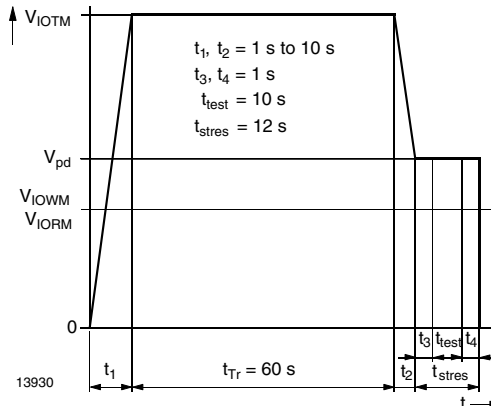

Fig. 2 - Test Pulse Diagram for Sample Test According to DIN EN 60747-5-5 / DIN EN 60747-; IEC 60747
- According to DIN EN 60747-5-5 (see figure 2). This optocoupler is suitable for safe electrical isolation only within the safety ratings. Compliance with the safety ratings shall be ensured by means of suitable protective circuits